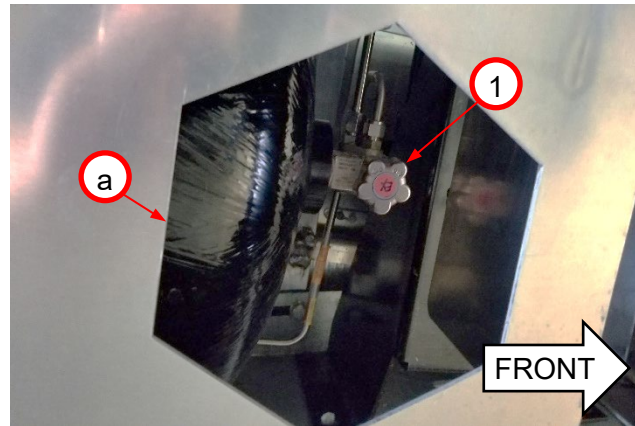

Figure 1:
3. Close manual shutoff valves (1) on all fuel cylinders by turning clockwise. *Figure 1*